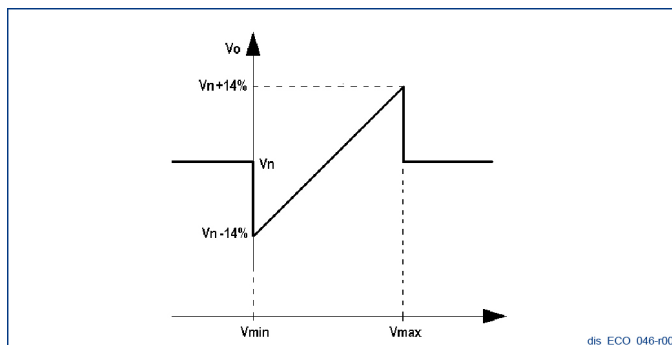

Figure 1: Without saturation of the output voltage when the limits of the input voltage are reached.
- Not to consider the value and go back to the regulation of the voltage value set through the trimmer (if enabled) or through parameter P[19], fig. 1.